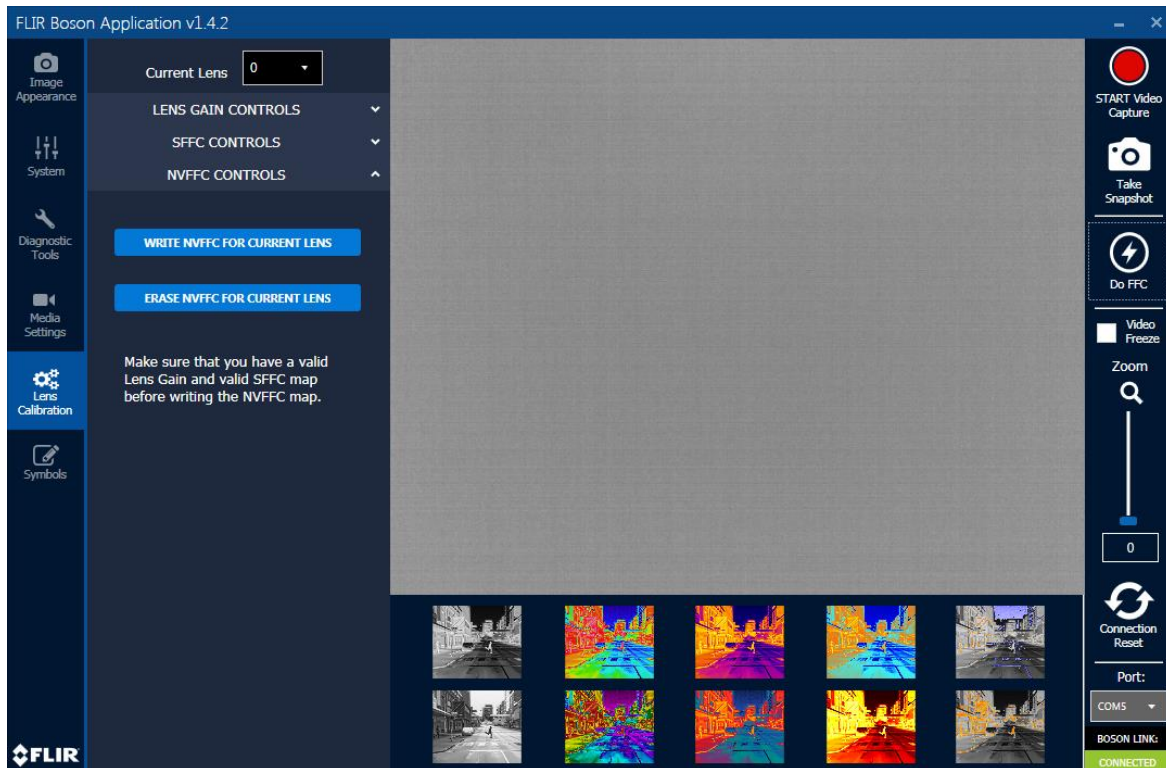

Figure 15. NVFFC Procedure
- 2) Select the **NVFFC CONTROLS** pane, shown in Figure 15.